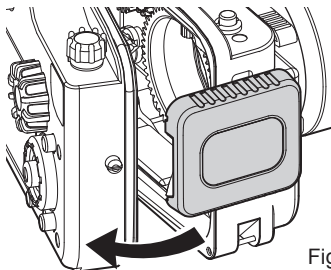

Fig.2
- 2 Pull the rear case to open (Fig.2)